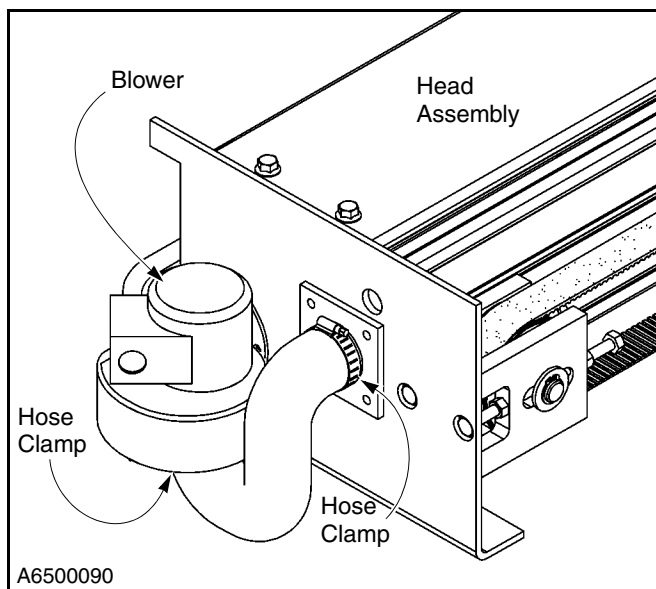

Figure 31
2. Inspect the overall condition of the heated unit. Verify that all hardware securing the blower to the end of the head assembly is in place and tight. Tighten or replace any loose or missing hardware. (See Figure 31.)